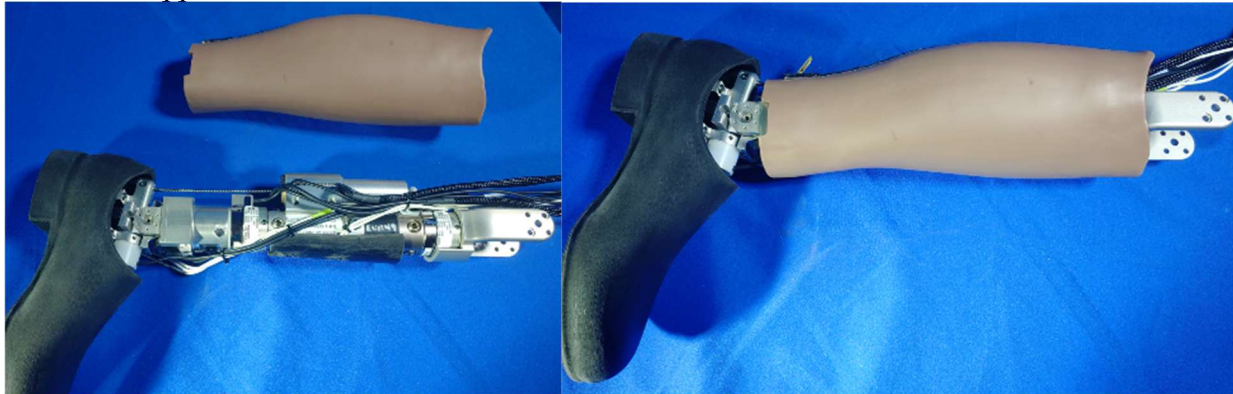

Figure 10-68. Install and zip the Lower Leg Flesh (474-5520-1,2) to the lower leg
- 10.3.32 Install and zip the Lower Leg Flesh (474-5520-1,2) to complete the lower leg assembly (Figure 10-68). Route the lower extremity wiring out at the top of the zipper.